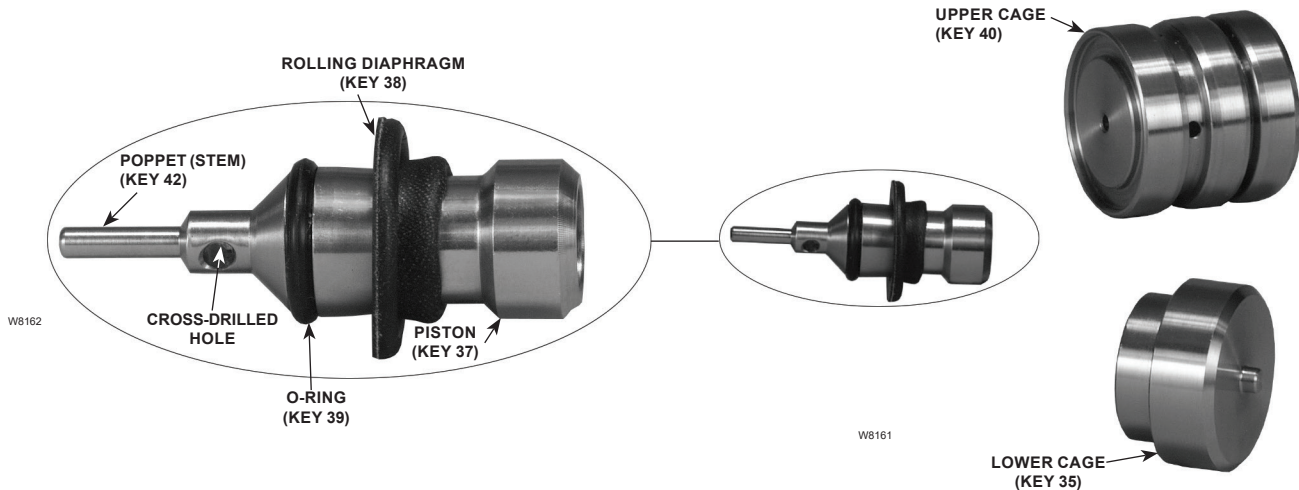

Figure 6. Cage Sub-Assembly
1. The upper cage (key 40) will readily separate from the lower cage (key 35). See Figure 6.
2. Gently press the poppet stem (key 42) to remove the pilot from the upper cage (key 40).
3. Insert a small drill bit into the cross-drilled hole on the poppet (key 42) to turn and loosen. Unthread the poppet from the piston (key 37). Remove the rolling diaphragm (key 38).
Refer to Figures 6, 8 and 9 when performing pilot/cage sub-assembly operations.
1. Apply Loctite® #222 or equivalent to the piston threads. Place the rolling diaphragm (key 38) over the threaded portion of the piston (key 37). Position the bead as shown in Figure 6.
2. Thread the poppet (key 42) onto the piston (key 37). Use soft-jawed pliers to restrain the piston so it is not damaged. Do not hold the poppet by the poppet stem. Insert a small drill bit into the cross-drilled hole on the poppet stem (key 42) to turn and tighten.
3. Slide the O-ring (key 39) onto the poppet (key 42).
4. Place the pilot sub-assembly into the upper cage (key 40).
5. Press the lower cage (key 35) and upper cage (key 40) together to ensure the groove in the lower cage engages the bead on the rolling diaphragm (key 38).